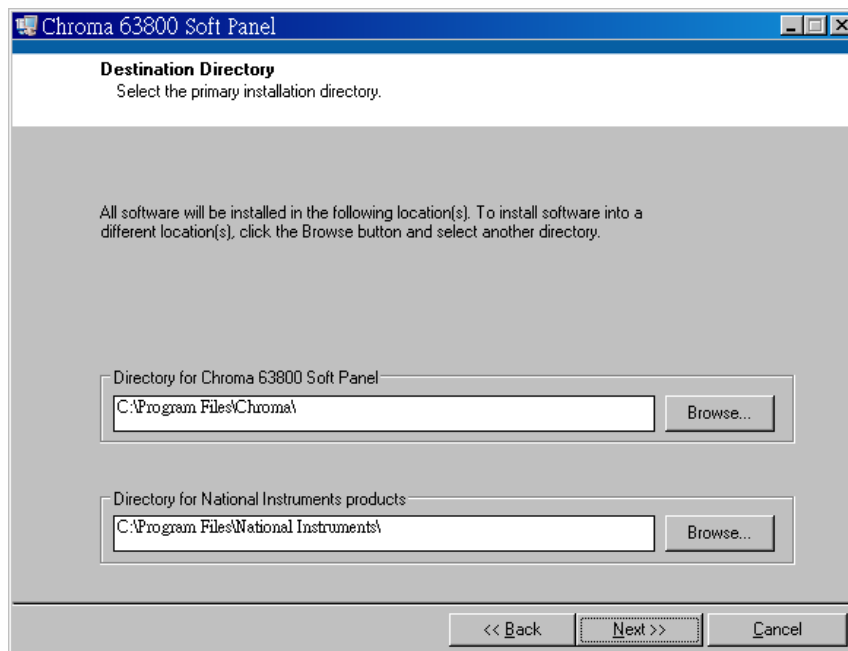

Figure 2-4 Chroma 63800 Soft Panel Select Installation Directory
3. Select installation directory, we install the program under `C:\Program Files\Chroma\` directory after *Figure 2-4* displayed. If need to change installation directory, click **Browse** to specify installation directory. After the directory specified, click **Next** to go on installing.